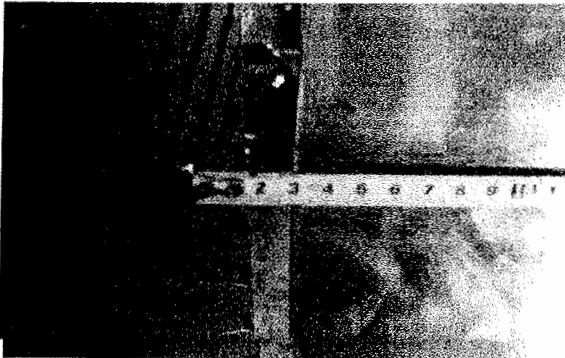

FIG 11
3.2.5 Position the bead breaking arm shaft bushing into the bead breaking support plate on the body (FIG 9-1 to align the hole and install the bead breaking bolt (FIG9-2) and assemble the nut to lock (FIG 8-4) . Insert the piston rod (FIG10-2) through the hole of the bead breaking slide bushing(FIG10-1) . The surface of the slide bushing should be outwards (FIG 10) . Assemble the removed nut (FIG 8-1) into the front end of the piston rod. The nut will be assembled. The distance from the edge of the bead breaking blade to the bead breaking rubber is 30~40mm (FIG11) . Hang the spring. (FIG9-3)。